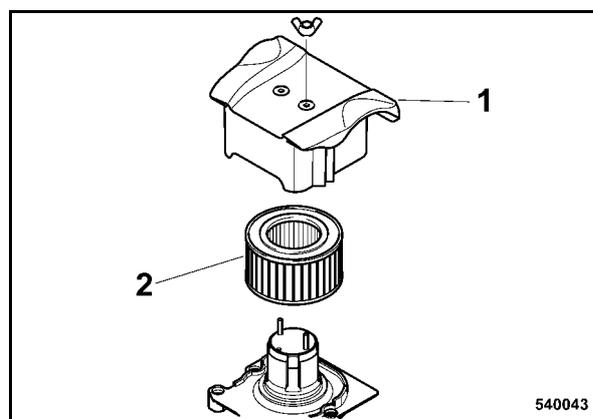

Fig. 64
- Remove cover (1) (Fig. 64), carefully take out filter cartridge (2).